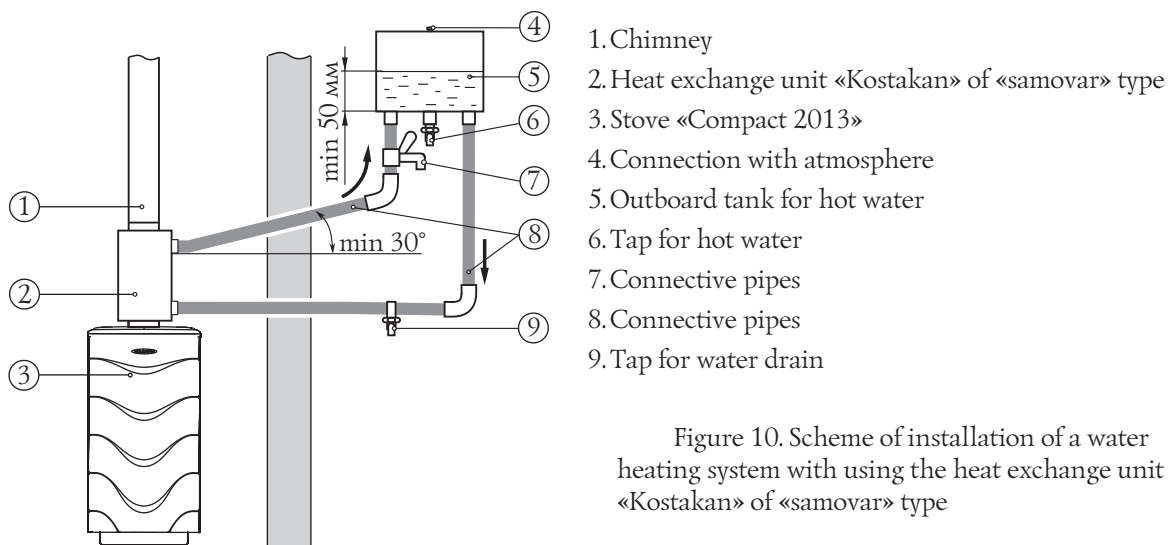

Figure 10. Scheme of installation of a water heating system with using the heat exchange unit «Kostakan» of «samovar» type
The general scheme of water heating system mounting with a heat exchanger of «samovar» type is shown in Figure 10. Components of water heating system are not supplied.
If necessary to get hot water at a short time then it will be permitted to make water distribution before its entry to a tank. For this purpose, it is necessary to connect a three-way tap (7) to a pipe of hot line between a top fitting adapter of a heat transfer device and a outboard tank in a convenient place for you (figures 10).